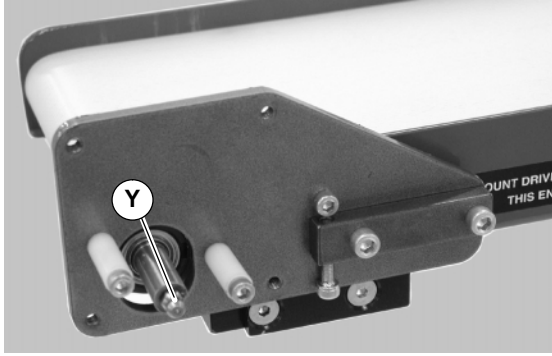

Figure 12
6. Lubricate pulley bearing on drive side through drive shaft grease fitting (Y of Figure 12).